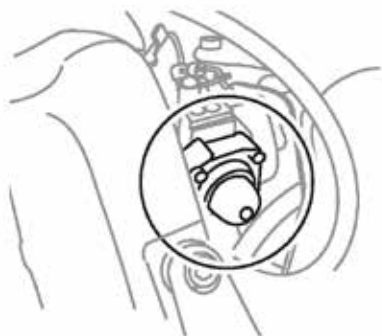

Figure 7. Purge Bulb
2. Carburetor Purge System: Push the purge bulb four times or until you see fuel in the bulb (Figure 7).